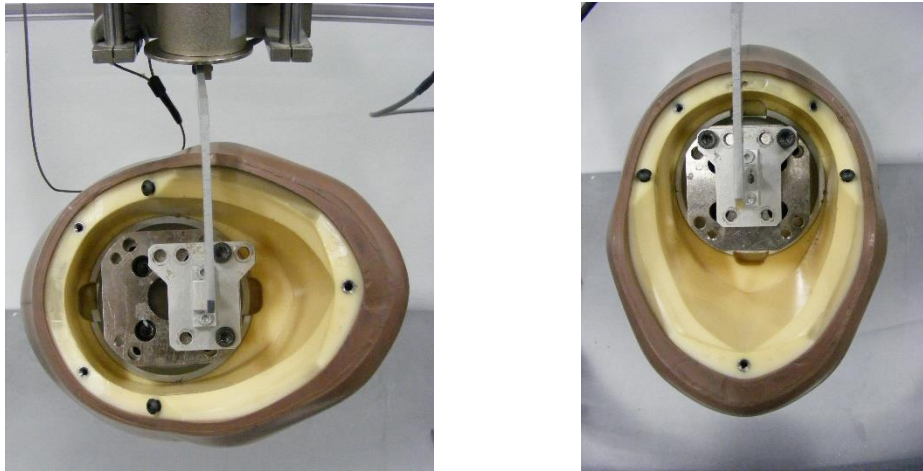

Figure 8-1 Installing brackets for lateral head certification test. Lateral bracket left photo, frontal bracket right photo.
- 5) Attach the head drop tool to the bottom of the upper neck load cell (or its replacement) with the two M6x12 SHCS (Figure 8-1). The tool can be mounted for left, right, or frontal drops. When mounted for lateral drops, it positions the head such that its midsagittal plane has an angle of 35 +/- 1 degree with the impact surface and its anterior-posterior axis is horizontal within 1 degree.
- 7) For a lateral test, position the head to the side, so its lowest point is 200 +/- 0.25 mm above the impact surface and drop the head (Figure 8-1, left photo).
- 8) For a frontal test, position the head so the forehead is 376 +/- 0.25 mm above the impact surface (Figure 8-1, right photo).